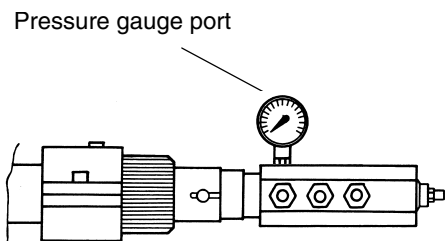

Fig. 18
- 7 the nozzle supply pressure is already factory-set and must not be changed. Only if necessary, adjust the supply pressure as follows (see related paragraph); insert a pressure gauge into the port shown on Fig. 18 and act on on the pump adjusting screw **VR** (see Fig. 17) as to get the nozzle pressure at 25bar (Fluidics nozzles - see diagram on page 21).